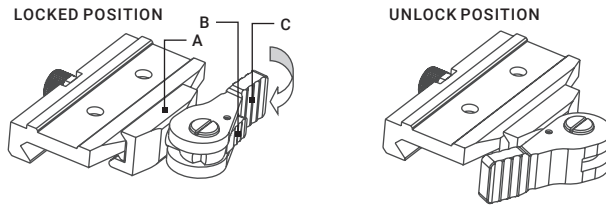

FIGURE 2-4. MOUNT. TOP VIEW
3. Unlock the clamping device (A) of the Anaconda mount by pushing down on the lever holder (B, see Figure 2-4) and unlocking the cam lever (C).
5. Affix the Anaconda to the rail by locking the cam lever (C, see Figure 2-4).